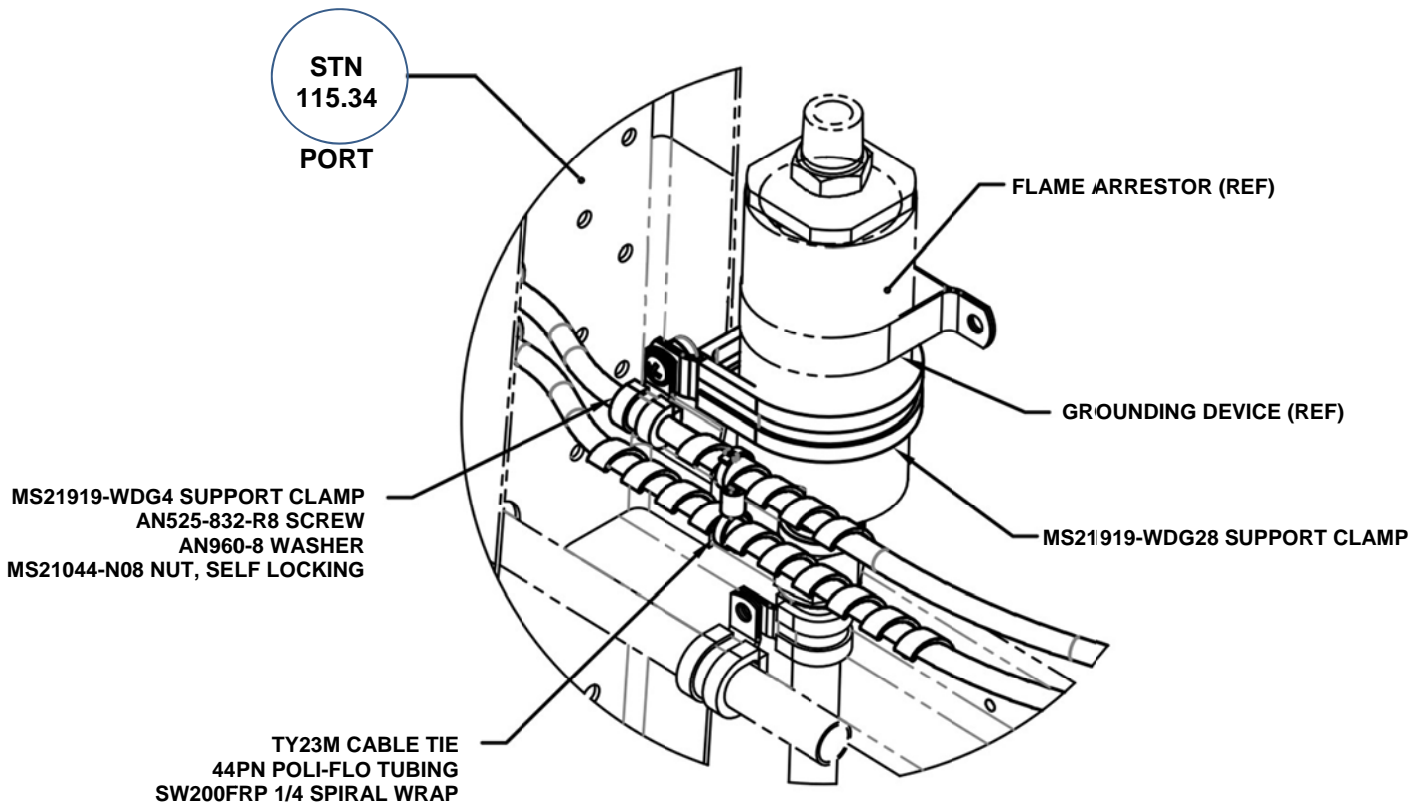
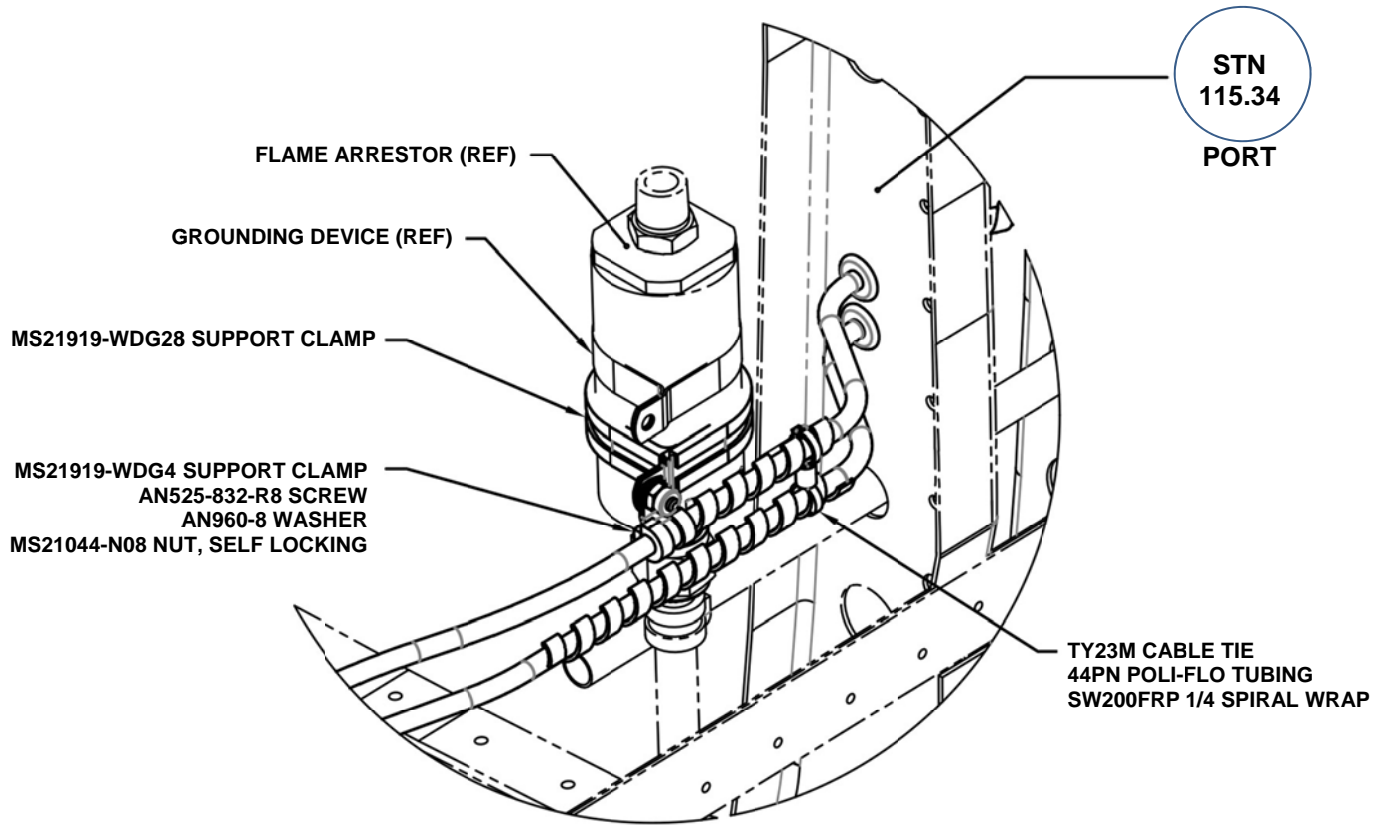

FIGURE 1 PITOT-STATIC SYSTEM – PITOT-STATIC LINES AND FLAME ARRESTOR INTERSECTION
FIGURE 2 PITOT-STATIC SYSTEM – PITOT-STATIC LINES AND FLAME ARRESTOR INTERSECTION (ALTERNATIVE)
(Refer to Figure 1)
- 3) Install pitot-static lines supporting clamps as shown in Figure 1. Use alternative way shown in Figure 2 if pitot-static lines traced between the flame arrestor and fuselage skin.